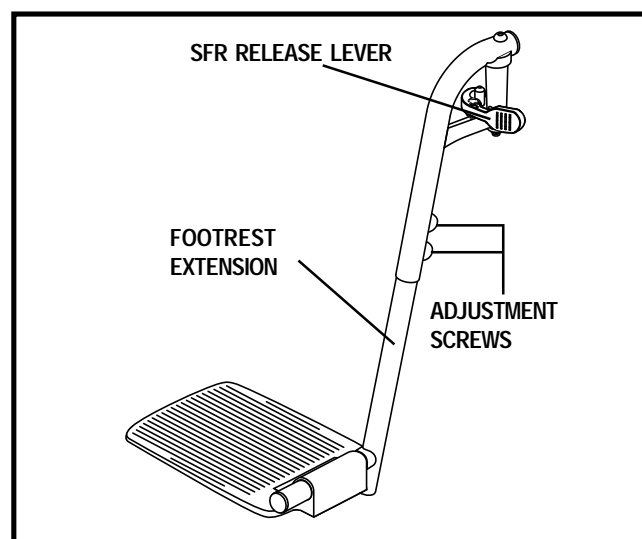

Figure 21. Swing-Away Footrests
1. Push in the release lever. See figure 21.
1. Remove the two adjustment screws from the side of each foot rest extension. See figure 21.